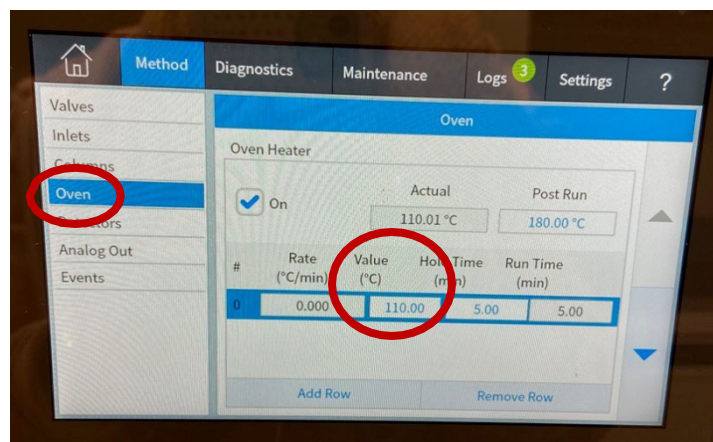

Figure 19. Setting the GC oven temperature to 110 °C.
4. Set the GC oven temperature to 110 °C by pressing **Oven** on the GC touchscreen to input **110** into the **Value (°C)** field (Figure 19).